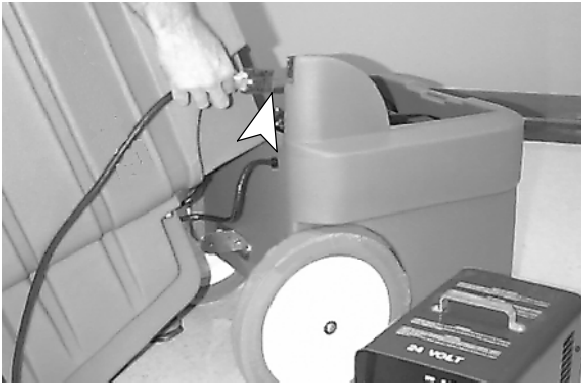

FIG. 20
5. Connect the battery charger into the machine's charging receptacle as shown (Figure 20).